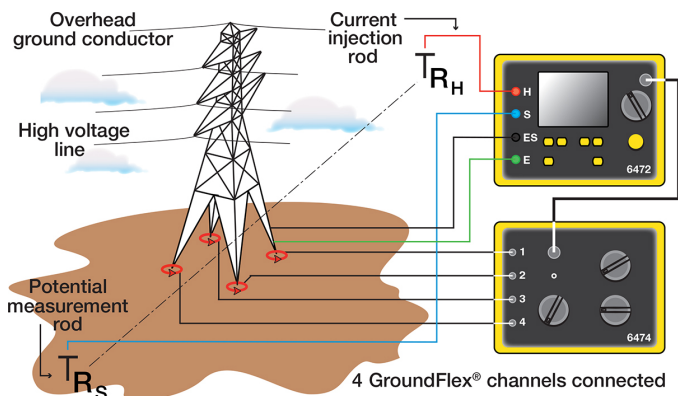

Figure 2
All coils must be installed in the same rotational direction either clockwise or counterclockwise (note arrow orientation on each GroundFlex® sensor) - the coax cables on the GroundFlex® sensors must come out in the same direction. On towers with 3 or 4 legs, the sensors must be in sequence from one leg to the next. (SEE Figure 2)
If possible, position the H and S electrodes 90° to the High Voltage (HV) line, one to the left and the other to the right with respect to the HV transmission line. If this is not possible stay at least 30° off parallel to the HV line. The minimum distance should be 150 – 300 ft. (50-100m). **Under no circumstances** place an electrode in the area and parallel to the HV-line. Connect the H electrode using the red (H) lead and the S electrode using the blue (S) lead. See Figure 2